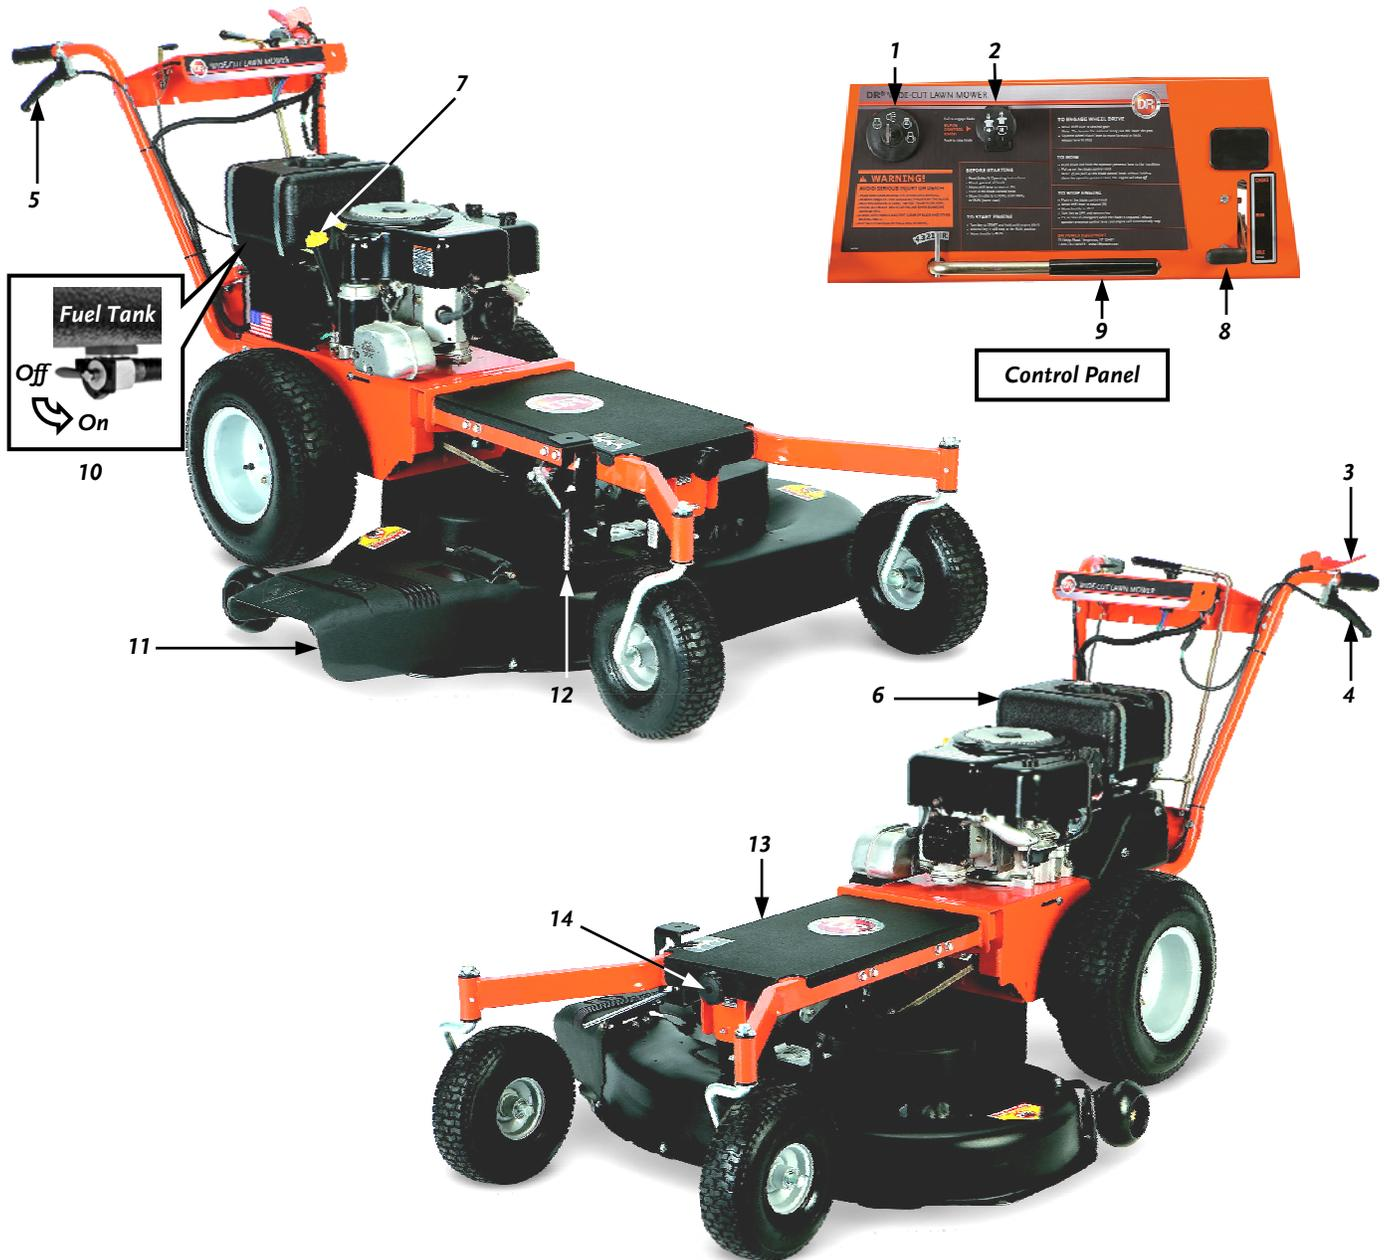

Figure 1
This chapter outlines a few simple steps you will need to follow to set up your new machine before you use it. It may be helpful to familiarize yourself with the controls and features on your new Mower by reviewing **Figure 1** below, and the descriptions on the next page, before beginning the steps outlined in this chapter. If you have any questions at all, please feel free to visit our website at www.DRPower.com or contact our Customer Service Representatives at our Toll-Free number 1-800-DR-OWNER (376-9637).
NOTE: The model shown in **Figure 1** may look slightly different from your machine.
8. Cut the Ties holding the Machine to the Pallet, move the Shift Lever to Neutral, release the Parking Brake (**Figure 1** on page 11) and roll the Machine off the Pallet. Do not discard the Cardboard and Pallet until you are fully satisfied with your new DR WIDE-CUT LAWN MOWER.
1. Place the machine on a level surface and initially add 1/2 of the SAE 30 high detergent oil recommended by the Engine manufacturer into the Oil Fill (**Figure 1** on page 11) and wait one minute for the oil to settle.
4. **Open the Fuel Shut-Off Valve**, which is located on the bottom of the Fuel Tank and accessed from the rear (**Figure 1** on page 11).
This chapter covers the procedures for starting and stopping your new DR WIDE-CUT LAWN MOWER and discusses basic operation features. You may find it helpful to review the DR WIDE-CUT LAWN MOWER Controls and Features in **Figure 1** on page 11 before reading this chapter.